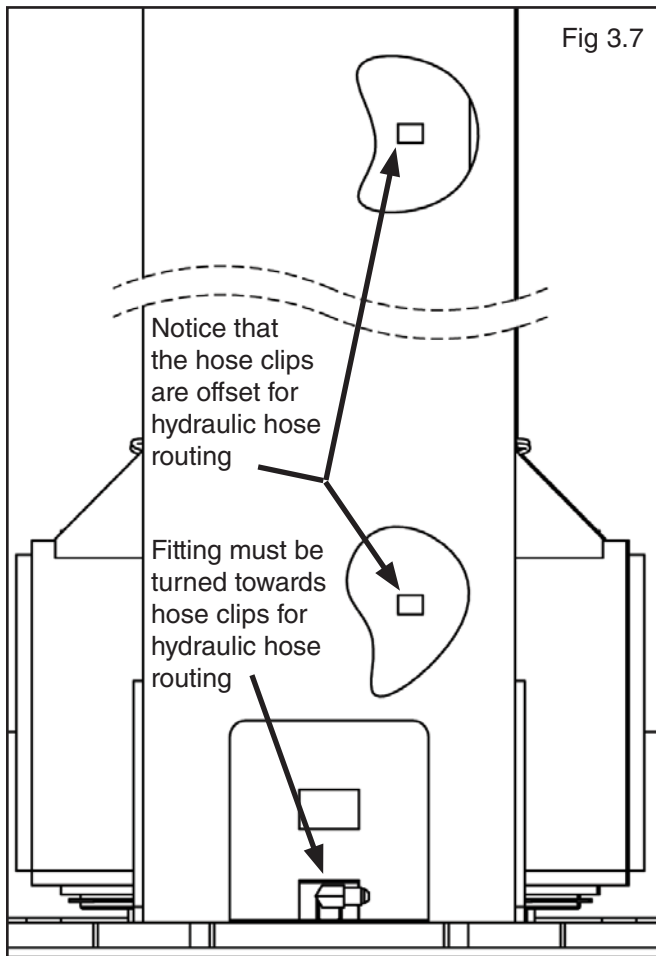

Fig 3.7
5. Install the cylinder fittings in cylinder ports. Pay attention when installing the fittings to ensure that each fitting points towards the side of the post that the hose retainer clips are located on. (See Fig 3.7)
BE SURE TO ORIENT THE HYDRAULIC FITTINGS ON CYLINDER AS SHOWN IN FIG 3.7.